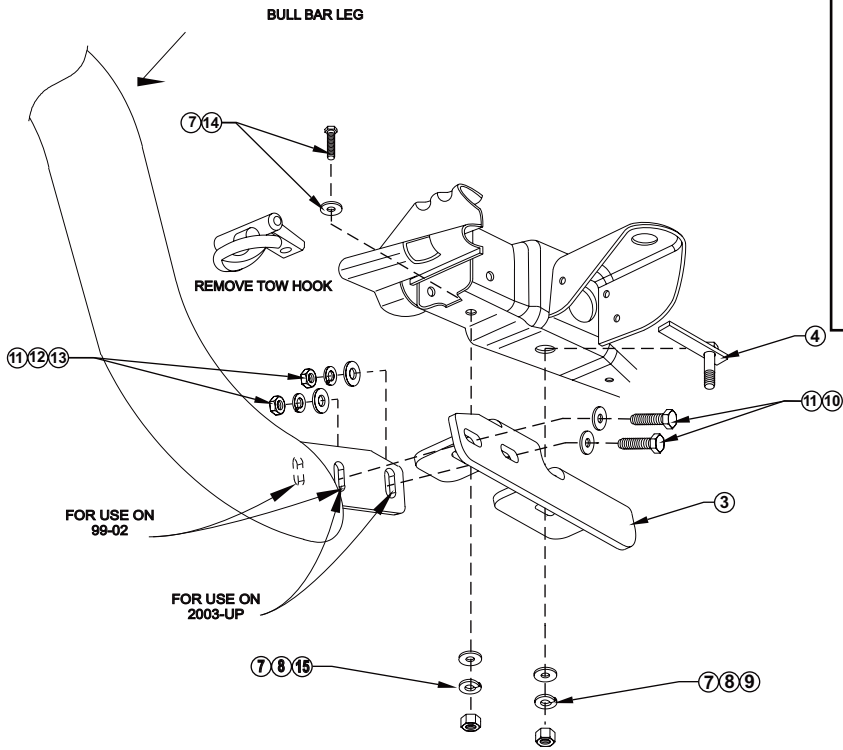

FIGURE 2 DRIVER SIDE INSTALLATION SHOWN, PASSENGER SIDE OPPOSITE
- STEP 3.** Determine passenger and driver brackets. From underneath vehicle, remove tow hooks. Insert bolt plates through large holes and M12-1.75 x 40mm hex head bolts through small holes in bottom frame locations. **SEE FIGURE 2.**
- STEP 5.** Attach Bull Bar to brackets using 3/8" fasteners as shown. **NOTE:** 1999-02 models use front and middle holes on the hoop mounting brackets. 2003-UP models use middle and rear holes. **SEE FIGURE 2.**